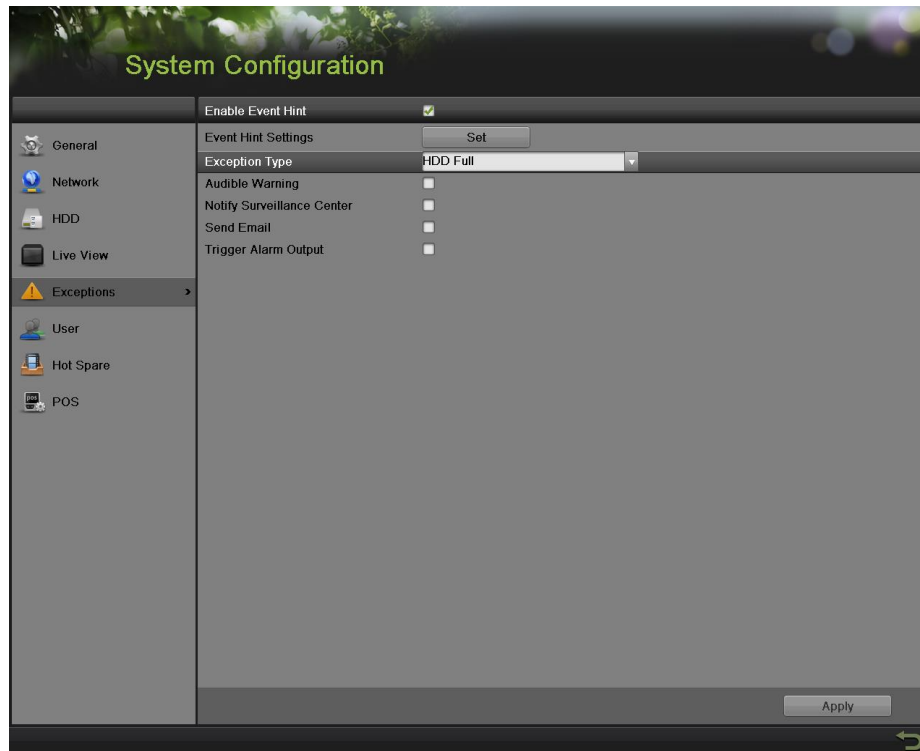

Figure 140 Exception Configuration Menu
1. Enter the Exception menu, shown in **Figure 140** by going to Menu > System Configuration > Exception.